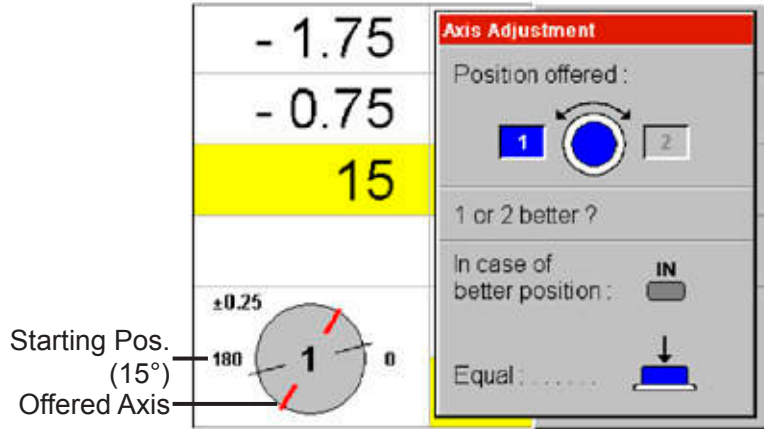

Figure IS-6 Axis Adjustment
1. Press X-CYL to set the Auto Phoropter RS™ to cross cylinder mode. Refer to Figure IS-6.